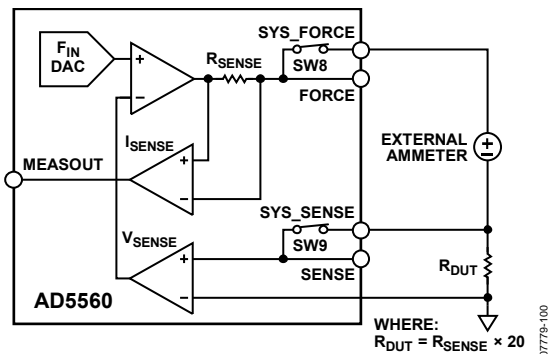

Figure 58. Measure Current Calibration
- d. Connect the SYS\_SENSE pin to a precision resistor ( $R_{DUT}$ ), where  $R_{DUT} = R_{SENSE} \times 20$  of the current range, and connect its other terminal to ground (see Figure 58).